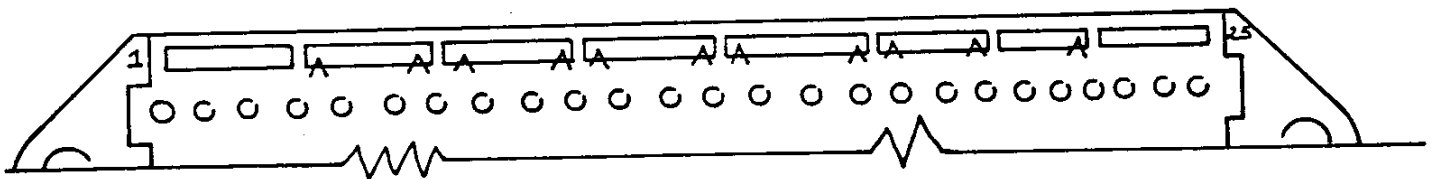
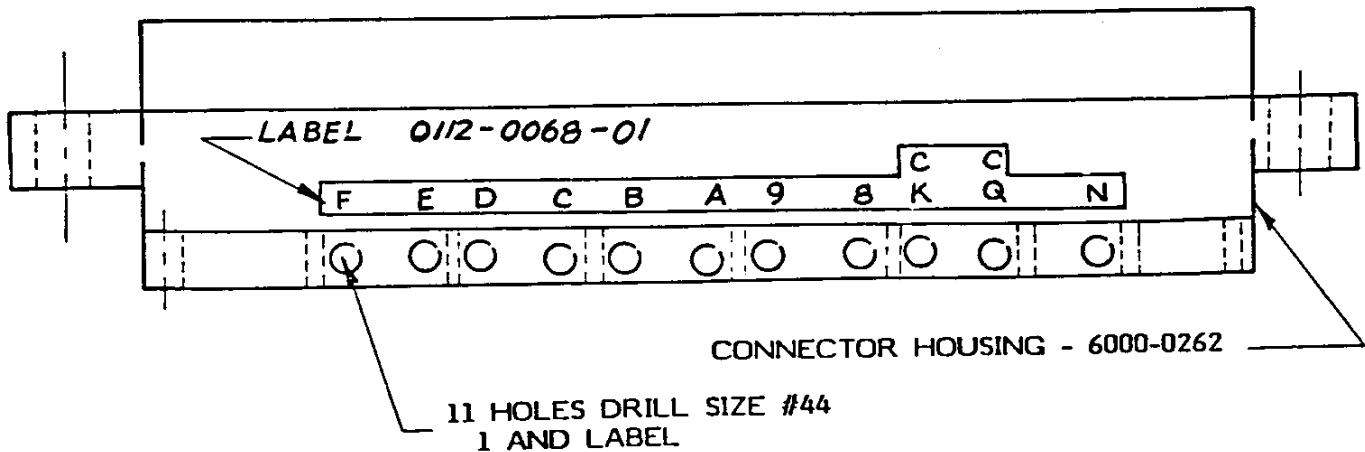

Figure 6.15 Rear View of Alignment Housing A
Figure 6.16 Top View of Alignment Housing A
1. Drill size #44 3/32" 11 places and label as shown in Figure 6.16. Notch as shown in Figure 6.15.